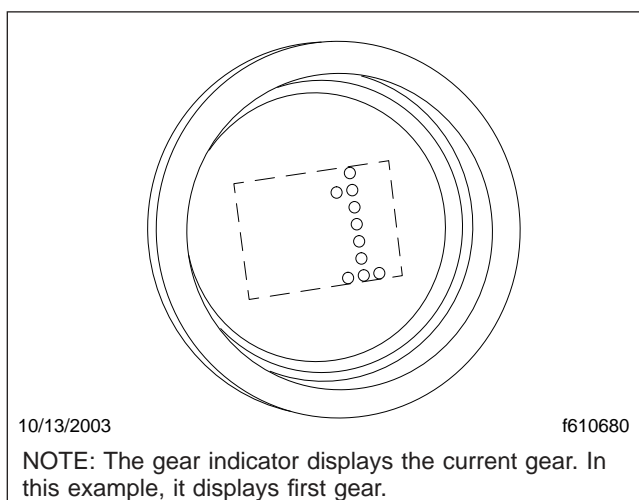

Fig. 8.16, Current Gear Display
In either mode, the gear indicator displays the current gear. See Fig. 8.16.
Drive (D) is directly below N on the four-position selector switch located at the end of the SmartShift control lever. To select D, press in the neutral lock button and move the selector switch to the position below N. When drive is selected, the number of the currently selected forward gear (1 through 6 on six-speed UltraShift ASW; 1 through 10 on ten-speed UltraShift DM) displays on the gear indicator. See Fig. 8.16.